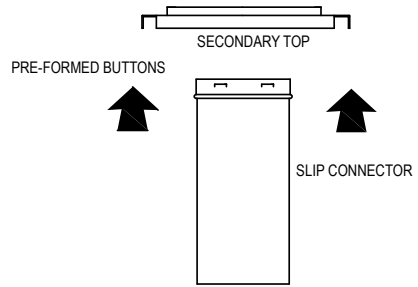
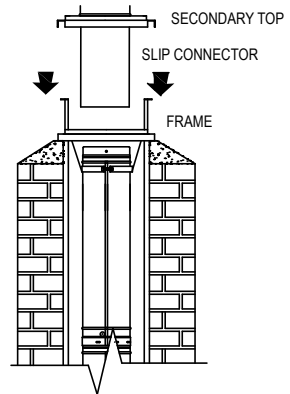
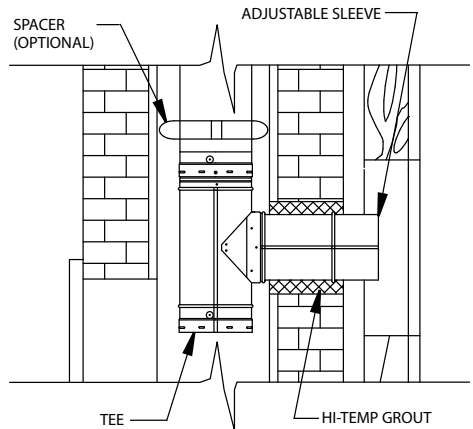

Figure 17
Figure 18
Figure 43
STEP SEVEN: Now you are ready to do the final top assembly. Take the slip connector and attach to Secondary Top. This is held in place by pre-formed buttons. (NOTE: with oval pipe the Slip Connector pipe must be attached to the Secondary Top with pop rivets in four pre-punched holes.) (See **Figure 17**) When this is done, slide Slip Connector into DuraLiner and over chimney top Frame. Attach Secondary Top to frame using eight screws. (See **Figure 18**) **Note: See page 17 for supplement (L403) that provides instructions for installing a through-the-wall system which penetrates a combustible wall, goes into an existing masonry chimney, and connects to a DuraLiner Relining System.**
Step 8: Connect the Tee to the first section of Pipe, as shown in **Figure 18**. Follow Steps 3, 4, and 5 (**Figures 19 and 20**) on page 10 & 11. Once the Adjustable Sleeve Component of the Insulated Thimble Assembly is pushed into the Tee, caulk with a high-temperature masonry / fireplace grout, as shown in Step 9. Slide the Insulated Wall Thimble into the Adjustable Sleeve and through the wall, until the base of the Thimble is flush against the masonry, as shown in **Figure 43**.